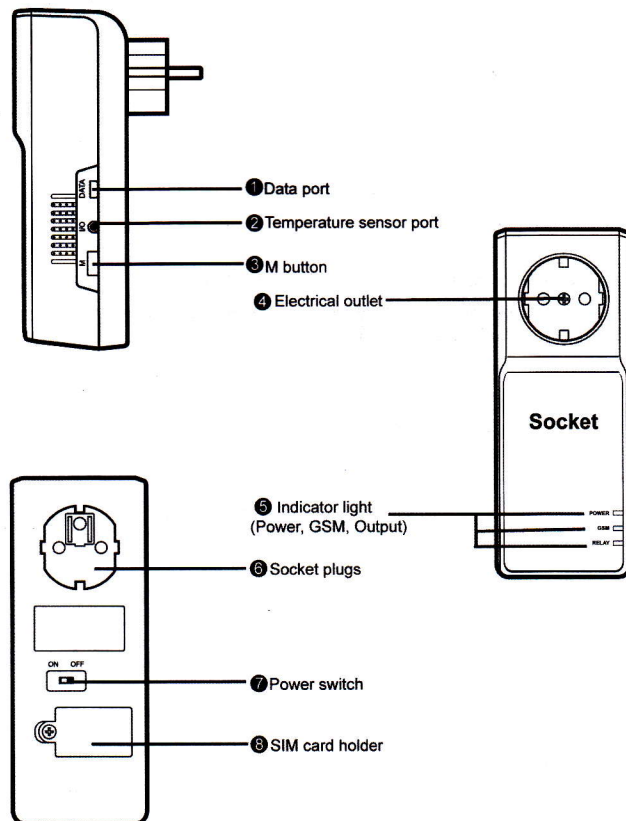

Figure 1: GSM Power Socket instructions
1. Turn the power switch to "On" position (See 7 on Figure1).
2. Plug the GSM Power Socket in an AC power socket (See 6 on Figure1).
3. Insert the plug of electronic appliance in the GSM Power Socket electrical outlet (See 4 on Figure1).
4. **M button** (See 3 on Figure1) can be pressed for about 0.5 second to switch on or off the output of socket.
**Method 1:** To press **M** button **0.5 second** (See 3 on Figure1).